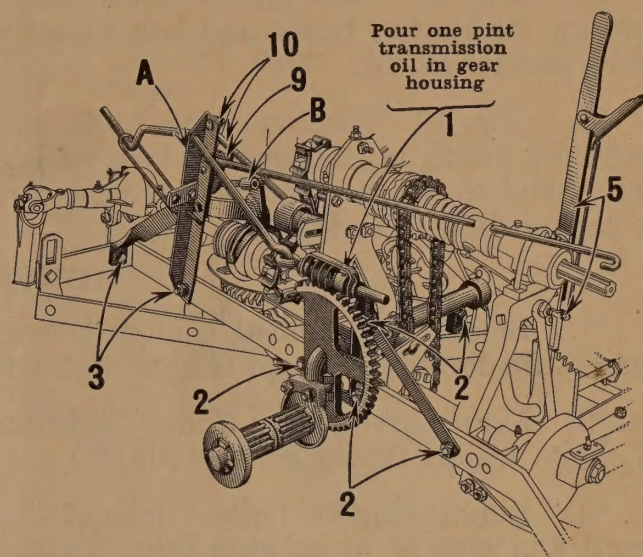

Fig. 2
1. (Fig. 2.) Pour one pint of transmission Oil in Main Drive Gear Housing.
R. H. Main Wheel Axle—(Fig. 2.) Bolt inner support loop bracket for R. H. main wheel axle to main frame middle cross sill using upper hole in bracket. Slide R. H. wheel axle into inner support bracket and bolt outer support bracket for R. H. wheel to main frame sill as shown. Attach flat brace for outer support bracket to **inside** of support bracket and to **outside** of frame sill. Flat brace goes to **front** of R. H. bracket as shown.
Note: Be sure to adjust stop bolt at "A", see Fig. 11, and throw-out yoke at "B", Fig. 2, so that clutch jaws have $1/8''$ clearance when disengaged and so yoke is free and does not drag on clutch when engaged.
5. (Fig. 2.) Hook detent rod into detent and bolt butt pan lever to lever extension with hand latch forward.
9. (Fig. 2.) Hook bundle carrier shifter rod (**Hook In**) into bell crank as shown.
10. (Fig. 2.) Attach round brace for R. H. raising crank support post to underside of binder frame and to support post.
*2. Main Drive Roller Chain (58 Links). Tightener sprocket works against **R. H. side** of chain. Adjust tightener. (See Fig. 2.)
*3. Bundle Carrier Drive Chain (18 Links, No. 62 Steel). Run **hook** end of link **forward** and **slot** or **open side out**. Tightener works against **R. H. side** of chain. Adjust tightener. (See Fig. 2.)
12. Set B272H swivel on bundle carrier clutch shifter yoke, adjusting rod at "B", Fig. 2, so that teeth on jaws clear about $1/8''$ when shifter arm is in the forward position. **Adjust Stop Bolt "A", Figs. 2 and 11** in bell crank bracket, so that clutch will shift easily and so that bell crank **will not lock over center.**